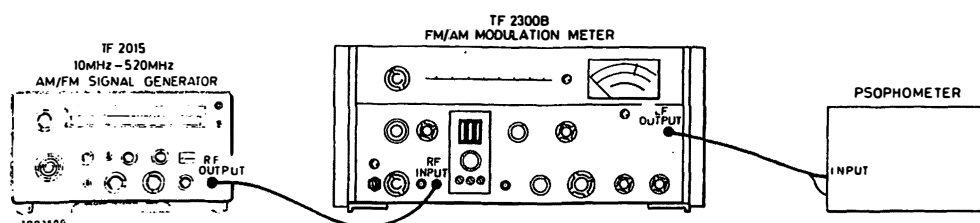

Fig. 4.8 Test gear arrangement to check spurious f.m. on c.w.
1. Connect the test equipment as in Fig. 4.8.